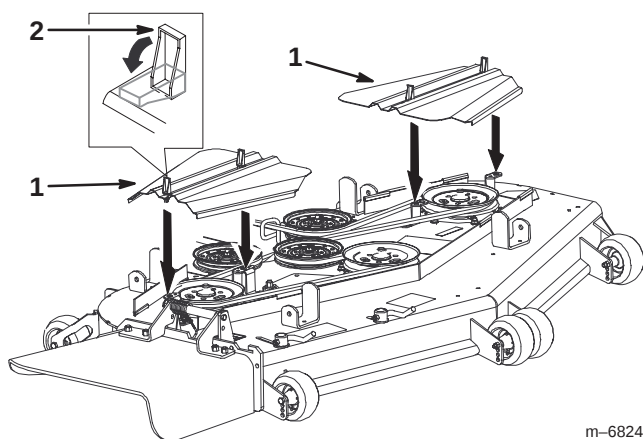

Figure 74
3. Remove the belt covers (Fig. 74).
- Install the belt covers and close the latches (Fig. 74).